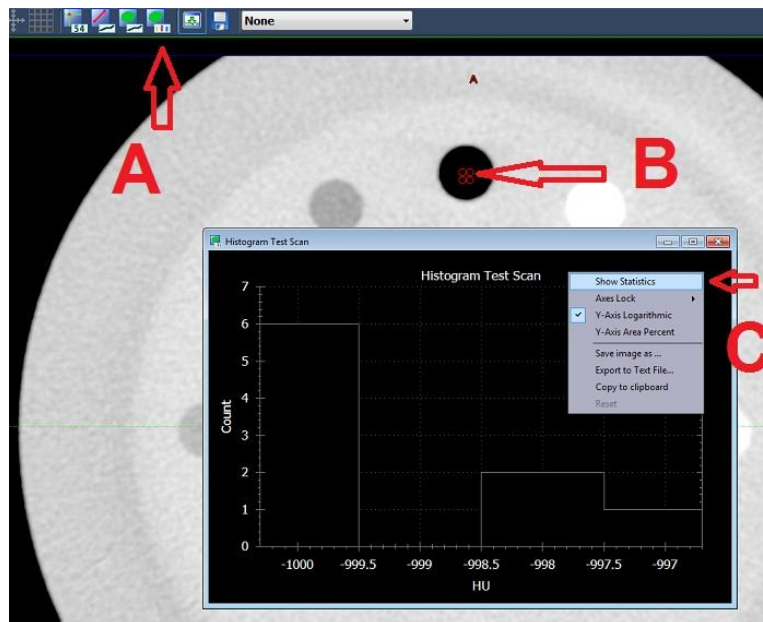

Figure 43: Selecting Statistics for Substance
6. Referring to Figure 43, select **Histogram** tab (labeled A) on the tool bar and then move the mouse cursor to click on Air substance (labeled B) on the image. Right mouse click within the Histogram window and then select "Show Statistics" (labeled C).